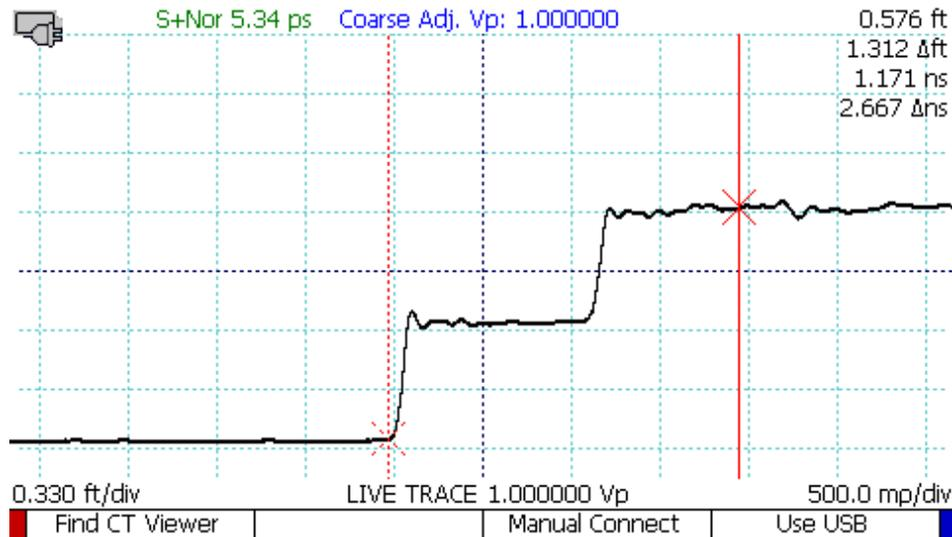

Figure 6.1. Options under the Connect to CT Viewer menu.
3. On the CT100B, navigate to *MENU* → *Connect to CT Viewer*. See Figure 6.1. The *Find CT Viewer* menu button will scan the local network looking for a PC running the CT Viewer 2 program.